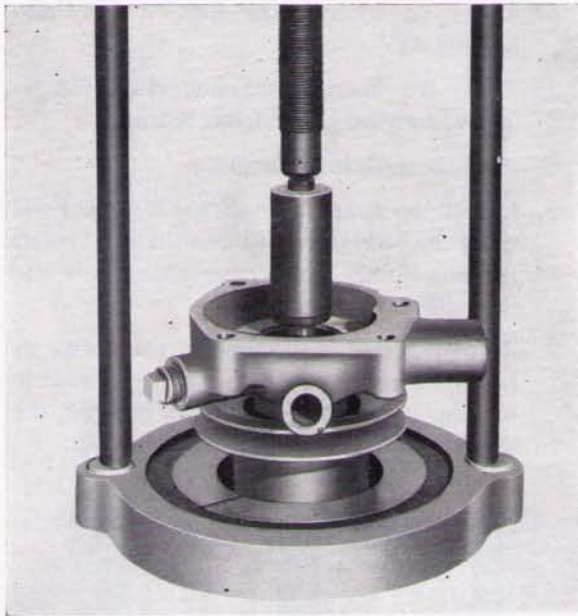

Fig. Q.8.
5. Locate the pulley in tool (See Fig. Q.8) and place the body over it so that the shaft enters the hole in the pulley. Press the shaft into the pulley.